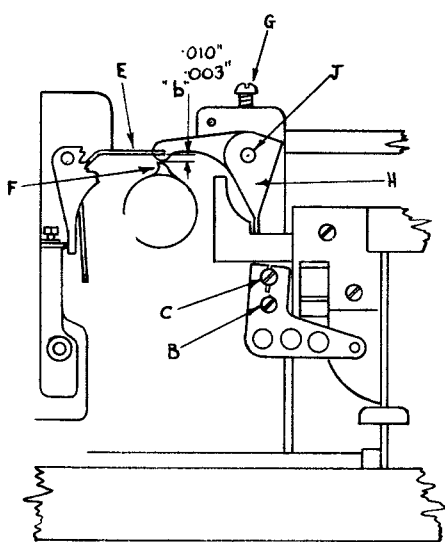
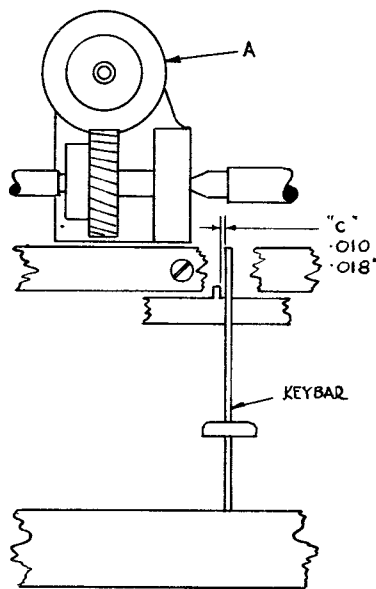

FIG. 22
FIG. 23
36. TURN THE TRANSMITTING CAM UNTIL THE PAWLS F ARE ARRESTED BY THE DETENT E (FIG 22) & ADJUST DIMENSION "b" (KEY BAR DEPRESSED) BY ECCENTRIC C. LOCK BY SCREW B.
37. WITH THE MOTOR RUNNING DEPRESS ANY KEY & ADJUST DIMENSION "C" (FIG.23) BY POSITIONING RESET LEVER H (FIG 22) WITH ECCENTRIC SPINDLE J. LOCK BY SCREW G.